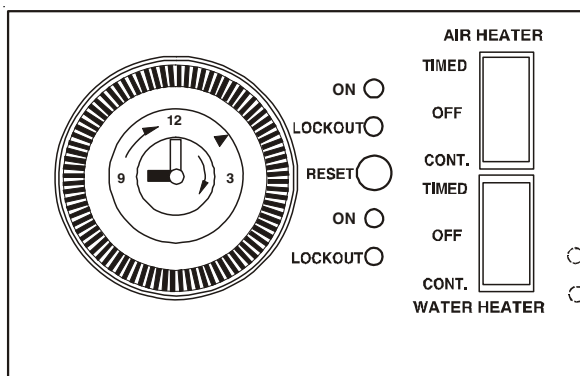

Fig. 2
- 1.5 Set the "WATER HEATER" switch on the time control to "CONT" After a period of 15-20 seconds the burner will ignite automatically, indicated by the green LED light marked 'ON' on the indicator panel (see Fig. 2).